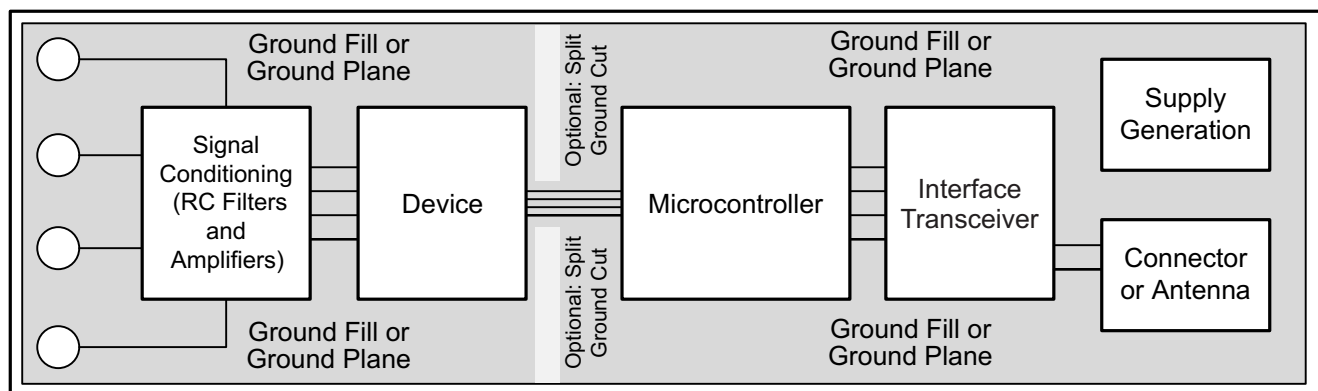

Figure 48. System Component Placement
Use best design practices when laying out a printed circuit board (PCB) for both analog and digital components. This recommendation generally means that the layout separates analog components [such as ADCs, amplifiers, references, digital-to-analog converters (DACs), and analog MUXs] from digital components [such as microcontrollers, complex programmable logic devices (CPLDs), field-programmable gate arrays (FPGAs), radio frequency (RF) transceivers, universal serial bus (USB) transceivers, and switching regulators]. Figure 48 shows an example of good component placement. Although Figure 48 provides a good example of component placement, the best placement for each application is unique to the geometries, components, and PCB fabrication capabilities employed. That is, there is no single layout that is perfect for every design and careful consideration must always be used when designing with any analog component.